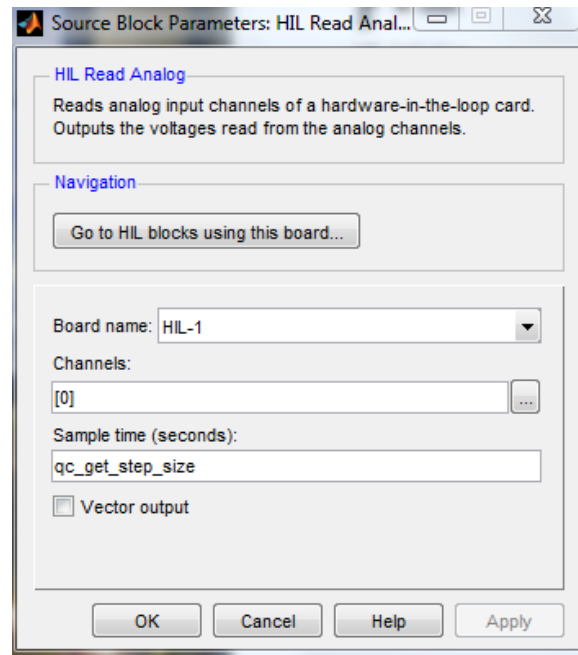

Figure 1.3: HIL Read Analog block settings
12. The input and output channel numbers in the Simulink blocks should match the channels used on the terminal board. Refer to Figures 1.3, 1.4, and 1.5 for the correct channels.